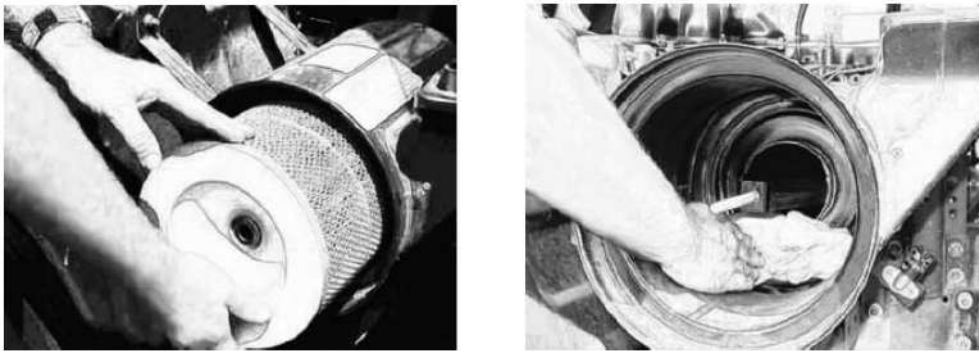

Fig3-13 Clean the Shell and Dust Cup
4.5.2.1 Take out the old filter element. Clean the filter shell and its dust cup with clean wet cloth(see Fig3-13)